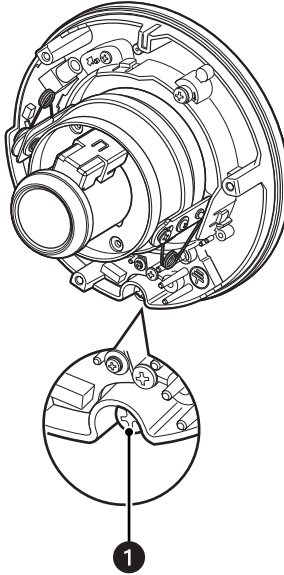

Figure 30. Tightening the Camera Fixing Screw
2. Secure the camera to the camera attachment with the camera fixing screw (red). Refer to Figure 30. The recommended tightening torque is 0.78 N·m (0.58 lbf·ft).